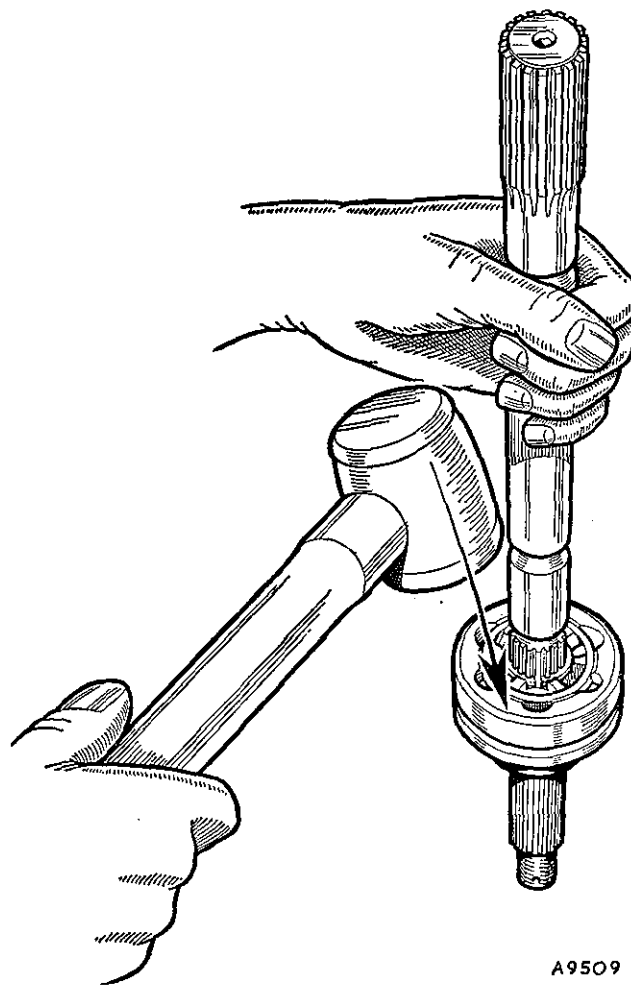

Fig. G.1
- (1) Clean the shaft of road dirt and grease and mount the shaft centrally in a vice fitted with soft jaws.
- (2) Prise off the boot and housing seal clips or cut the soft iron wire, turn back the housing seal and slide off the joint flange. Remove the housing seal and the rubber boot, if they are worn or damaged, replacements must be fitted on reassembly.
- (3) The bell joint can only be dismantled after removal of the shaft; a round-section spring ring located in a deep groove in the extreme end of the shaft is expanded into the chamfered end of the inner race bore, and for shaft removal this must be contracted into the groove.
- (4) Hold the shaft and joint vertically, the bell joint downwards, and give the edge of the outer race a sharp tap with a soft faced mallet (see Fig. G.1). This should contract the spring ring so that the joint can be drawn off the shaft. It should not be necessary to use heavy blows for this operation.